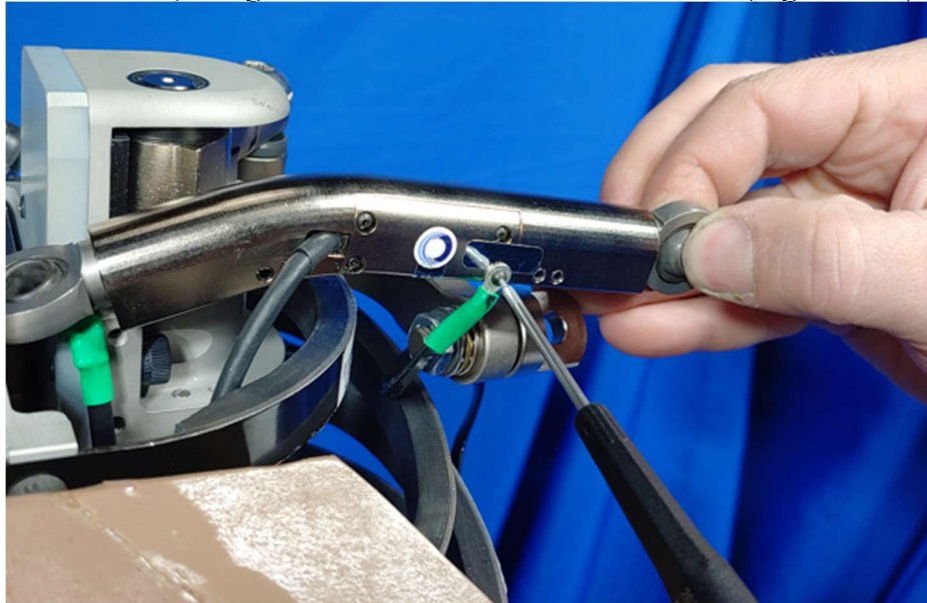

Figure 5-67. Attach ground cables to the left and right Clavicle Assemblies (474-3508)
5.3.32 Attach ground cables to the left and right Clavicle Assemblies (474-3508) using a M4 X 0.7 X 6 BHCS and a washer (Figure 5-67).